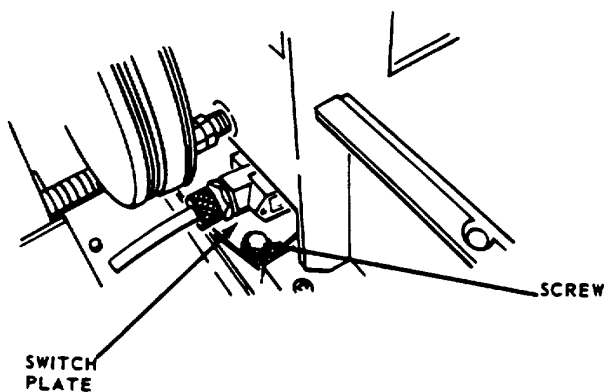

FIGURE 102
- d. See Figure 102. Loosen Screw. This will enable you to slide Switch Plate, which is slotted around Screw.